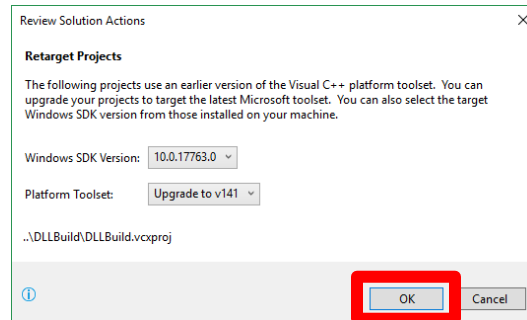

Figure 71 - Visual Studio Retargeting Solution
- 5) Visual Studio will ask to retarget the solution, select “OK” (See Figure 71 - Visual Studio Retargeting Solution)